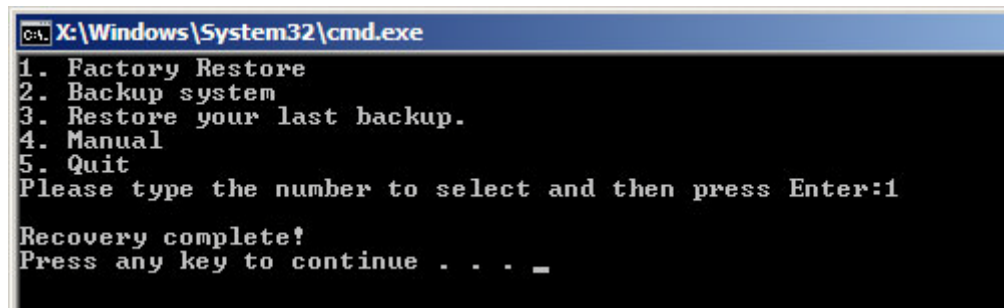

Figure A-35: Recovery Complete Window
Step 3: The screen is shown as in **Figure A-35** when completed. Press any key to reboot the system.